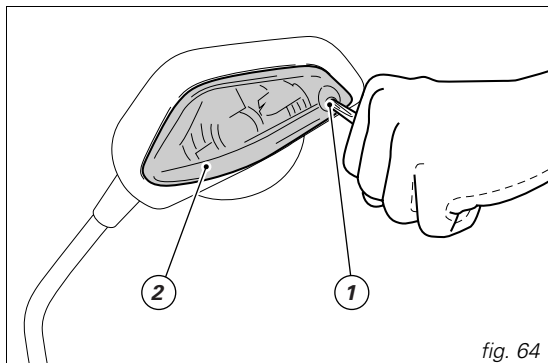

fig. 64
To replace the bulb, unscrew the screw (1) and remove the lens (2) of the indicator from the mirror (fig. 64).